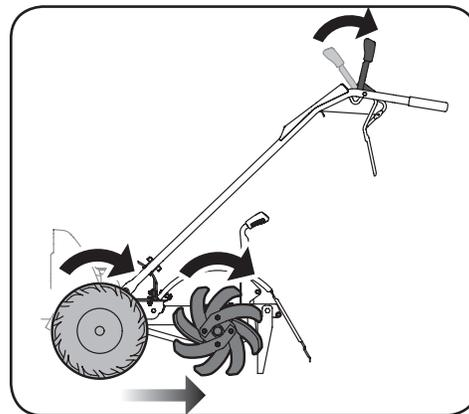

Figure 4-6
- c. While driving in reverse the tines will also rotate in reverse. See Figure 4-6.